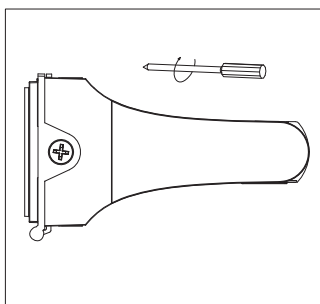

Figure 10
Step 7: Well organize the line and tighten the screws of the lamp base (Figure 10 & Figure 11)